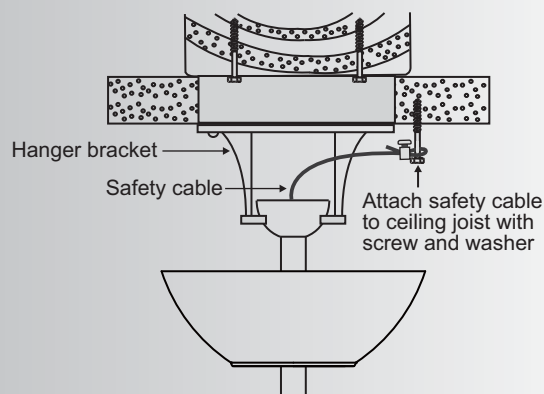

Fig. 14
Step 1. Attach the provided wood screw and washers to the ceiling joist next to the mounting bracket but do not tighten. (Fig. 14)